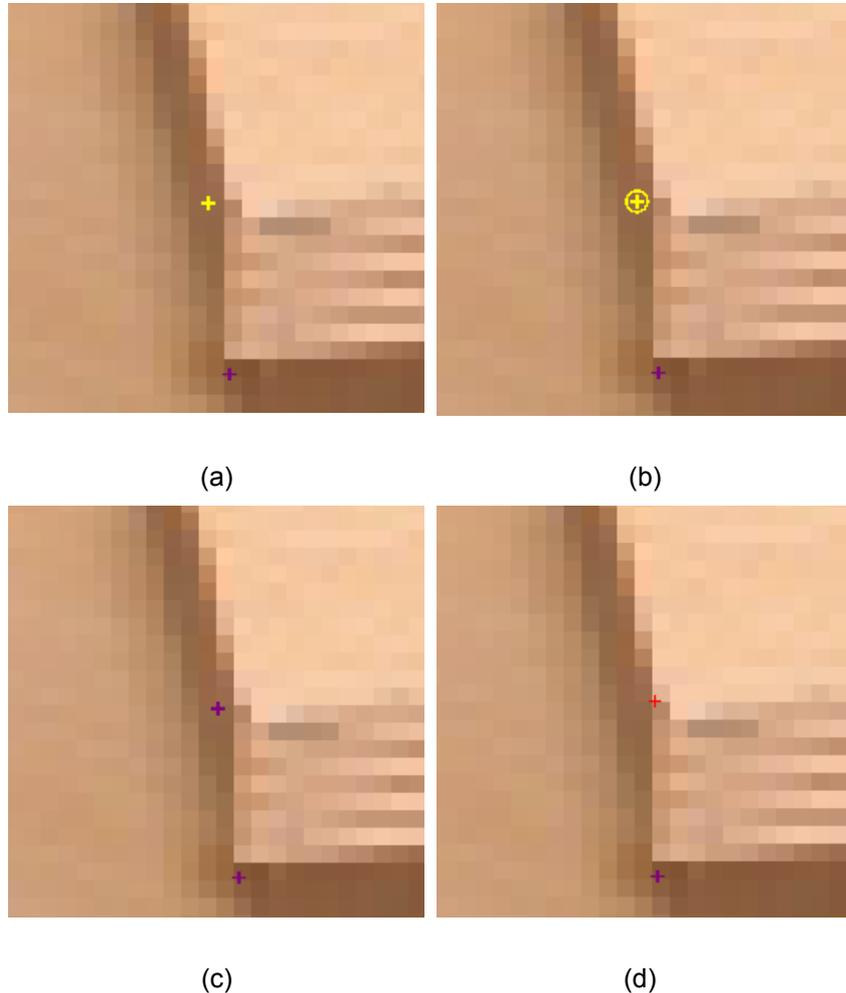

Figure 3: The states of identifying the the projections of reconstructed calibration points.
2. Use the *Show point projections* command on the toolbar or in the **View** menu. If a point in the model does not have a matching point on an input image then its projection is displayed with a yellow marker as shown in Figure 3-(a).
3. Click on the yellow marker to select all the matching points of the corresponding 3D point on the rest of the images. The marker will change shape as shown in Figure 3-(b)
4. Check the existing projections to understand the corresponding feature in the scene. The feature shown in Figure 3 is the upper corner of a table.
5. Click on the marker again to add the point as the matching point for the feature. The point will be displayed with a regular selected marker as shown in Figure 3-(d).
6. Drag the point to the center of the corresponding feature as shown in Figure 3-(d) .
After the 3D model is built, *Show point projections* command on the toolbar or in the **View** menu can be used to display their projections.. If a point in the model does not have a matching point on an input image then its projection is displayed with a yellow marker as shown in Figure 3-(a). It is possible to select and convert projections to matching points.
inside a circle when the projection is selected as shown in Figure 3-(b)